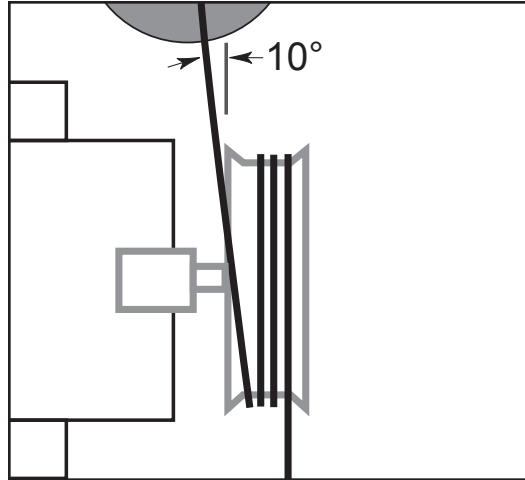

Figure 18. Puller Positioning
- a. Move the puller into its final position. The pull line will wrap best on the capstan if the capstan is angled about  $10^\circ$  away from the pull line (figure 18). This will allow the line to walk down the side of the capstan and push the previous wraps to the side.